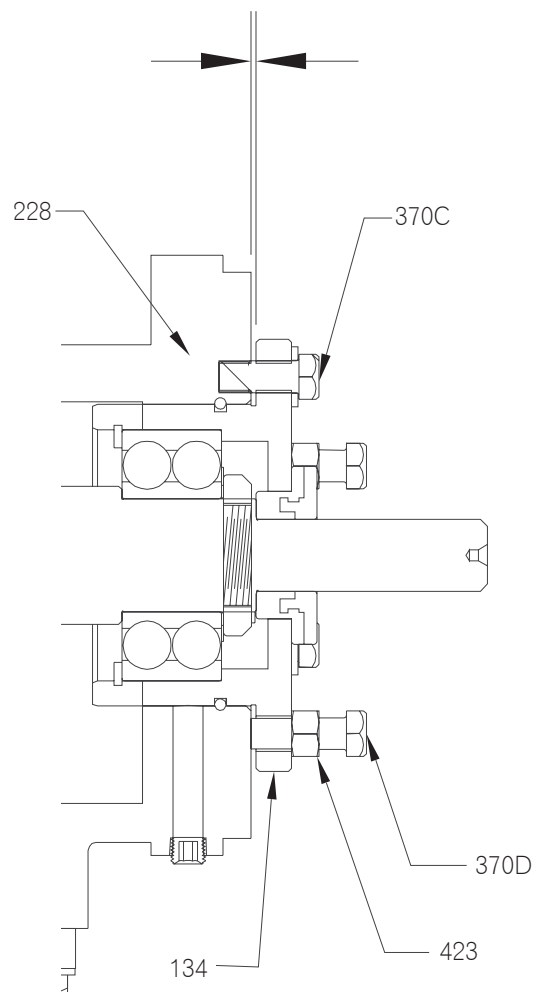

Fig. 7
1. Clean fits between rotating assembly and impeller housing (26).
4. Install rotating assembly in impeller housing (26). Torque bolts according to values in Table on page 13. (Fig. 7)